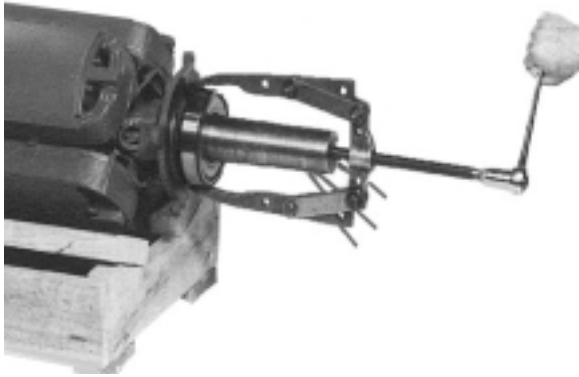

Figure 6-38
2. If the bearing is to be replaced, remove with suitable puller. (Figure 6-38.)